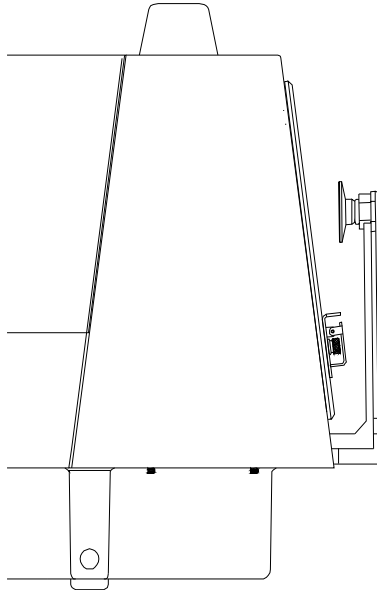

Figure 4-4. Pull Away Sample Arm
1. Pull the sample arm away from the viewport door. See Figure 4-4.